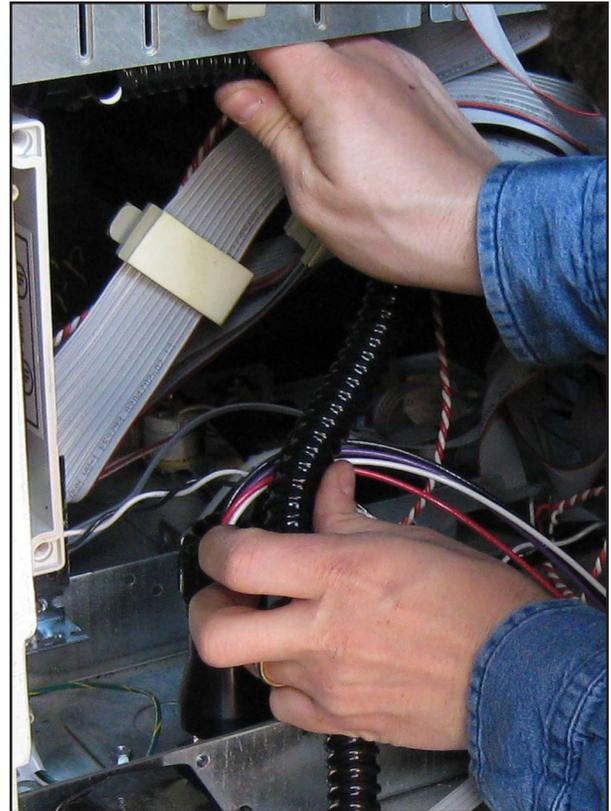

Figure 12: Flexible Conduit Installation
27. Find the flexible conduit from the IS Wiring Kit, 020-1513. Using 90-degree fitting and straight fitting installed earlier, determine length of flexible conduit assembly needed and cut to fit. Refer to Figure 12.